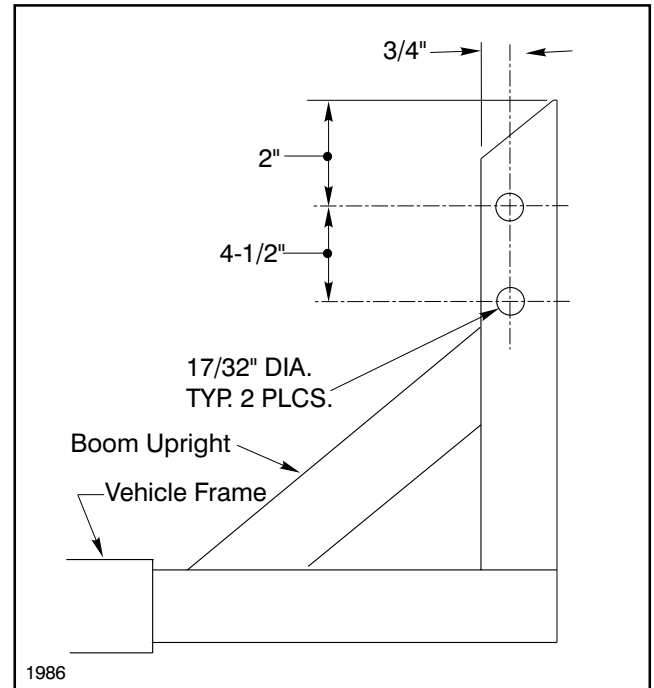

FIG. 1
2. Loosen the two (2) 1/2" x 18 screws securing the Boom Mounting Assembly to the Vehicle Frame. Slide the Boom Mount Assembly out 2" to allow installation of the Hose Reel Mounting Bracket.
3. Drill holes on the left and right Boom Uprights as shown in FIG. 1.